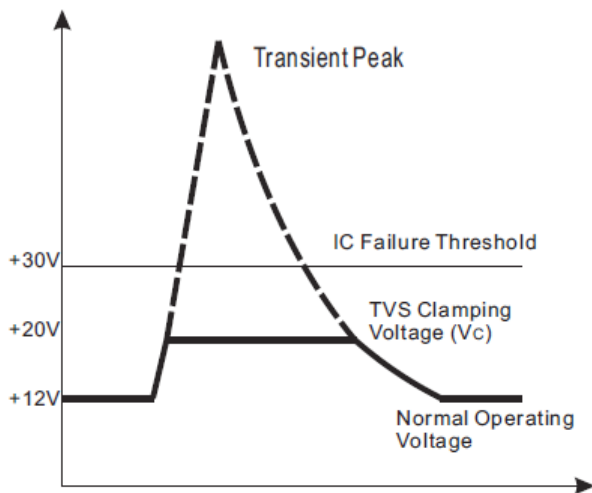

Fig. 8 - Transient current is diverted to ground thru TVS; the voltage seen by the protected load is limited to the clamping voltage level
6. Transient Voltage Suppressors (TVS) are devices used to protect vulnerable circuits from electrical overstress such as that caused by electrostatic discharge, inductive load switching and induced lightning. Within the TVS, damaging voltage spikes are limited by clamping or avalanche action of a rugged silicon PN junction which reduces the amplitude of the transient to a nondestructive level. See Fig. 7 & Fig. 8